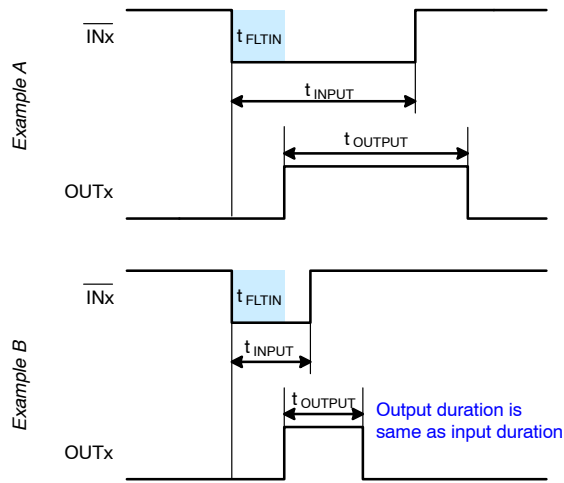

**Figure 43. RCIN and Fault-Clear Waveform Definition**
Figure 43 shows the waveform definitions of RCIN,  $\overline{FO}$ , and the low-side driver; which uses a soft turn-off method when an under-voltage condition of the low-side gate driver supply voltage ( $V_{DD}$ ) or the current-sense pin (CS) recognizes a fault. If a fault condition occurs, the  $\overline{FO}$  Pin is internally pulled to COM and all outputs (HO1,2,3 and LO1,2,3) of the gate driver are turned off. Low-side outputs decline linearly by the internal sink current source ( $I_{SOFT} = 40 \text{ mA}$ ) for soft turn-off, as shown in Figure 43.